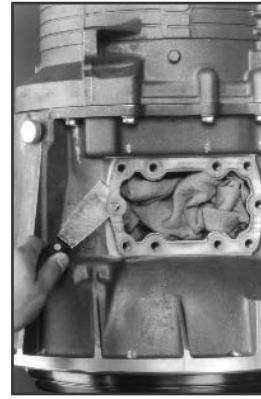

Fig. 6
6. Install the remaining capscrews. Torque all to 40 - 50 Lbs. ft. (54 - 68 N.m. or 5.5 - 6.9 Kg.m) (**Fig. 6**).